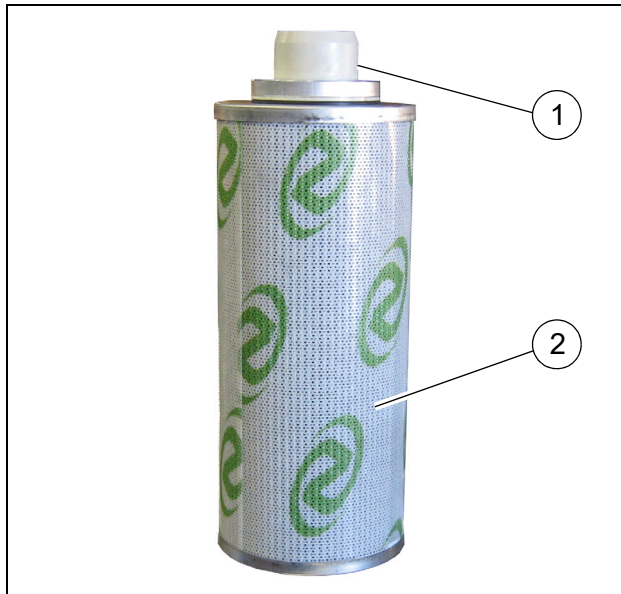

Figure 5
- Insert element connector (**Figure 5, 1**), part no. 137720, into the top of the first filter element (**Figure 5, 2**) until the connector is flush with the top of the element.